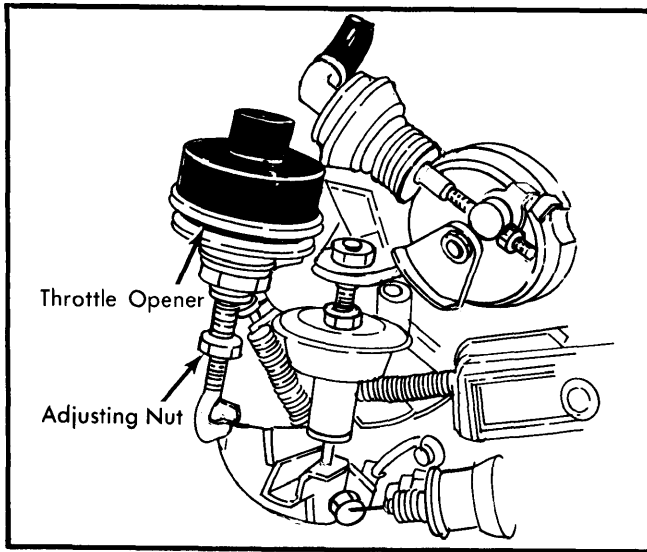

Fig. 7 Adjusting Throttle Opener (A/C Models Only)
2) Turn off air conditioner switch. Disconnect electrical connector from air conditioner solenoid (except Calif. Man. Trans.). Connect battery power to one terminal in connector and ground the other terminal. Throttle opener should operate and engine speed should increase to 1150-1250 RPM in neutral. If engine speed is not to specification, turn adjusting nut shown in Fig. 7.